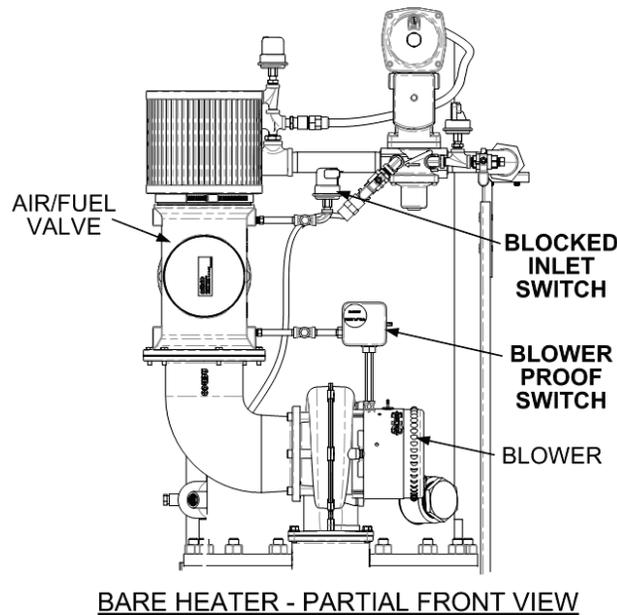

Figure 5-4. Blower Proof & Blocked Inlet Switch Locations
These tests check the operation of the Blower Proof Switch and Blocked Inlet Switch shown in Figure 5-4.
10. Next, check the operation of the Blocked Inlet Switch located on the inlet side of the Air/Fuel Valve (Figure 5-4).